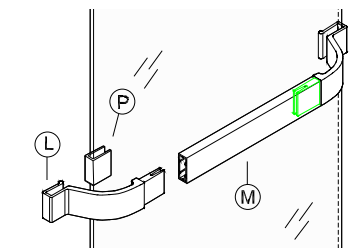

figure 7
8. Attach Hanger brackets as shown in exploded view - sheet 1. Begin by draping a Bracket Vinyl (d5) over the edge of the Glass Panel. Using three(3) Bracket Screws (d2), loosely assemble the two piece hanger bracket and positioned it over the Vinyl. Position the Hanger Bracket an inch from vertical edge of glass and tighten down the screws (allen wrench required). Next install the roller as shown and tighten down on screw. Repeat step for the remaining Hanger Brackets.
9. Install the Towel Bar (M) on the outside panel as shown in the exploded view - sheet 1 (note that the Towel Bar is on the same side as the Nylon Rollers) . Begin by wrapping Vinyl (P) over glass edge as shown in figure 7. Use a block of wood or a rubber mallet to tap Towel Bar Brackets (L) over Vinyl (P) until seated. Position Towel Bar (M) as shown and secure with four(4) 638 Screws (N).